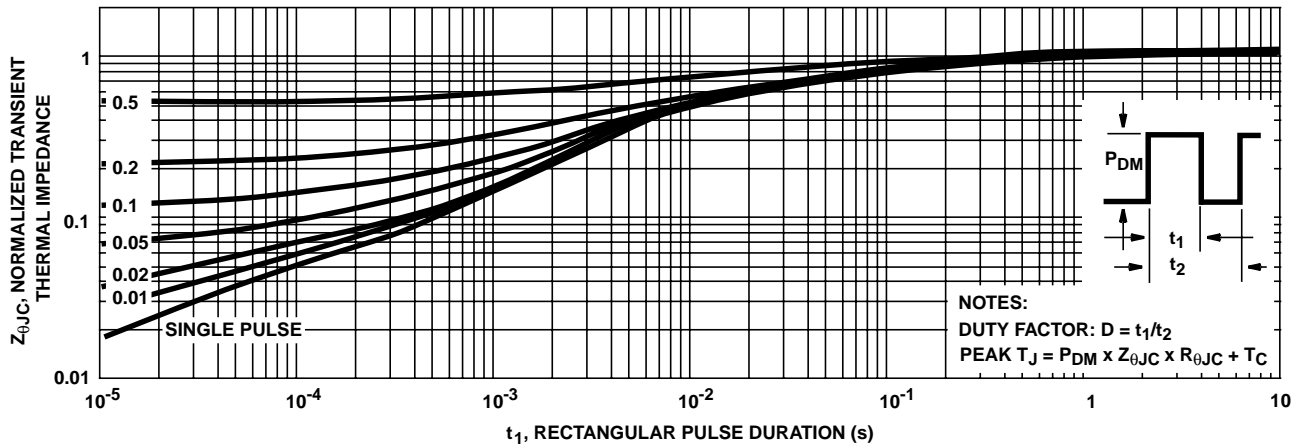

FIGURE 3. NORMALIZED TRANSIENT THERMAL IMPEDANCE
3. Repetitive rating: pulse width limited by maximum junction temperature. See Transient Thermal Impedance curve (Figure 3).